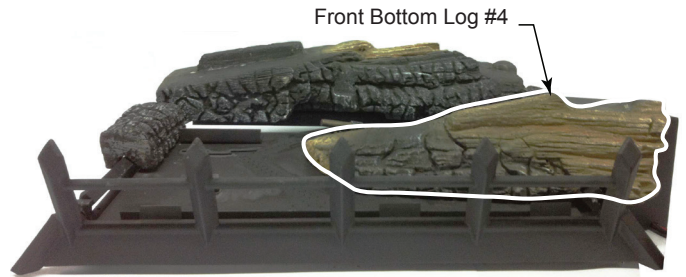

Figure 6.20 - Log #4 Placement
- Place front bottom right log (#4) on right pin located on burner and right grate bar. Figure 6.20.